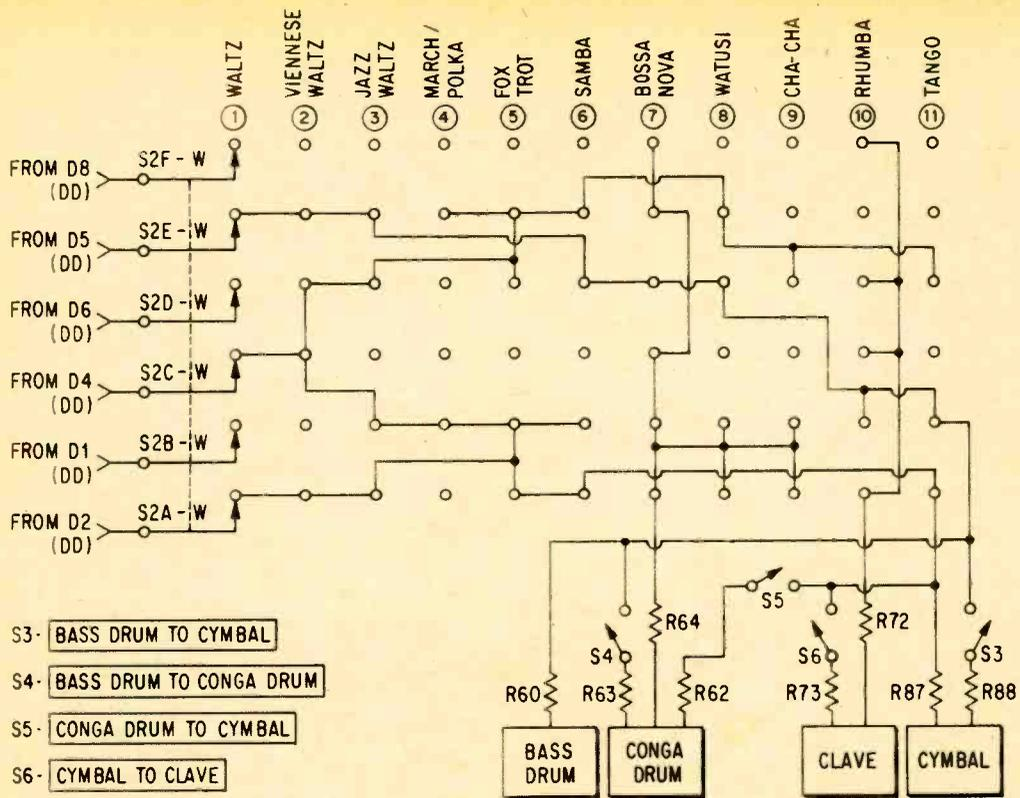

Fig. 5—Switching schematic. Keep this handy to double-check your wiring of the rhythm-selector switch (S2).
of contacts marked *waltz* in Fig. 5.
**Rhythms.** Rotary switch S2 provides the 11 basic rhythms shown in Fig. 5. For the first three—waltz, Viennese waltz and jazz waltz—S1 must be in the 3/4 position. The next eight rhythms are all 4/4—march/polka, fox trot, samba, bossa-nova, watusi, chacha, rumba and tango.
If you would like to expand the project, it is quite easy to do. For example by building more drum generators like those shown in Fig. 2, but using other capacitor values in the phase shift networks, a series of lower or higher-frequency sounds can be obtained. These may sound like snare drums, wood blocks, triangles and cow bells. To add these sounds, more and different switching will be needed. By following the pattern of Fig. 5, extra switching shouldn't be difficult to add.